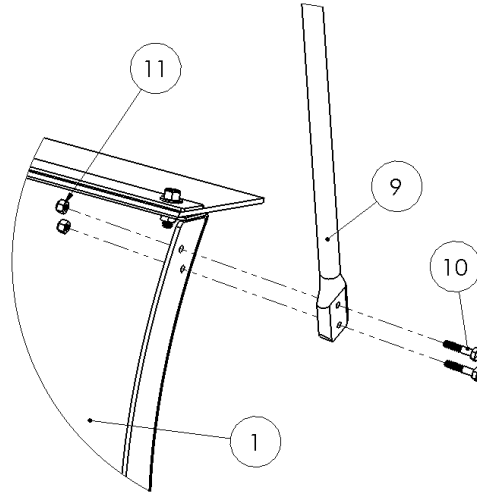

Figure 3
- 3) Install the 28" Flag markers to the sides of the plow blade as shown in Figure 3